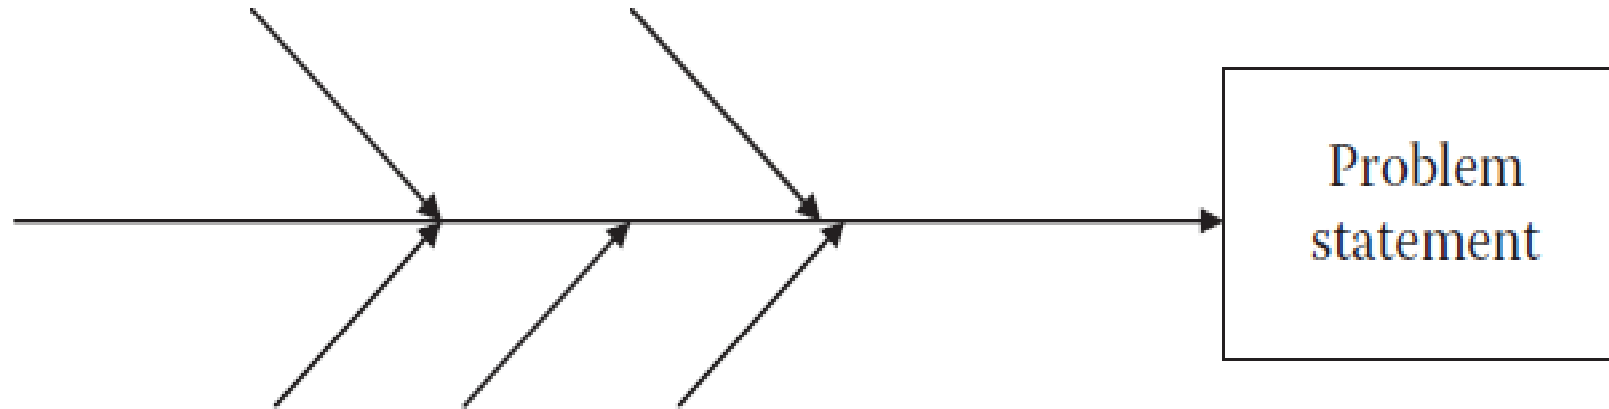
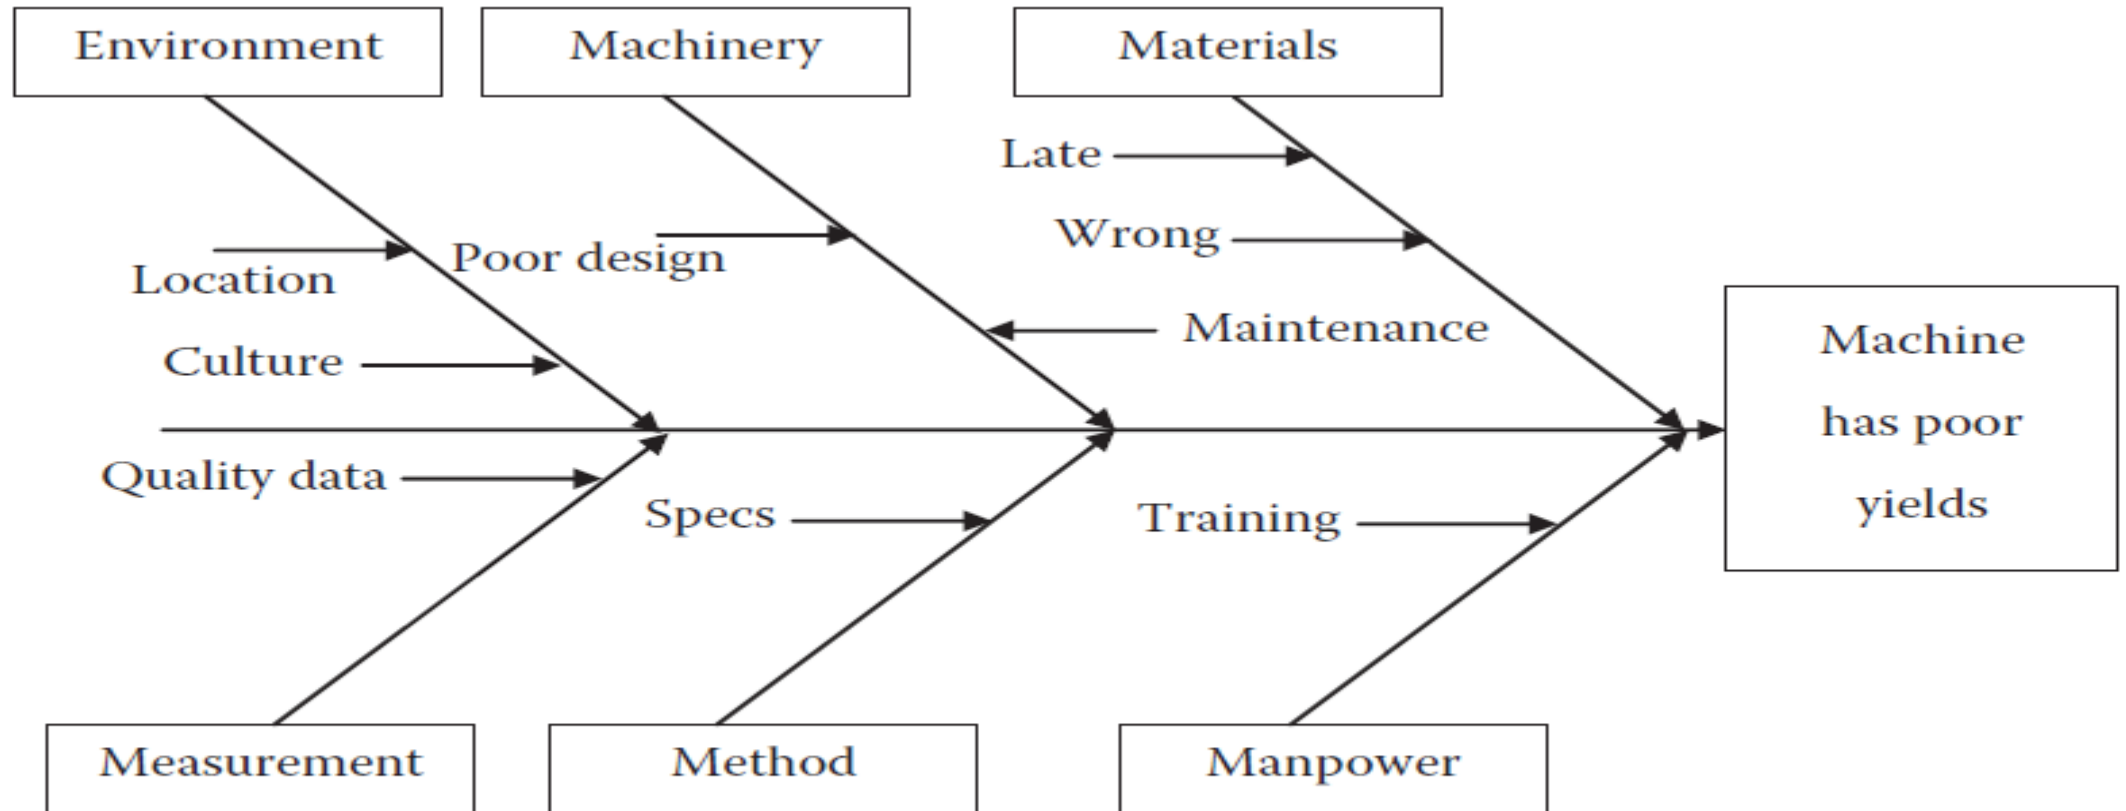

Figure 11.3 Bones (major cause categories). Note that there is no perfect set or number of “bone” categories—they can be modified to fit the problem.
Figure 11.4 Fishbone diagram to examine poor process output.
- ❖ Figure 11.3 displays a sample layout of this diagram and Figure 11.4 displays an example of a filled-out diagram relating to the car case study.